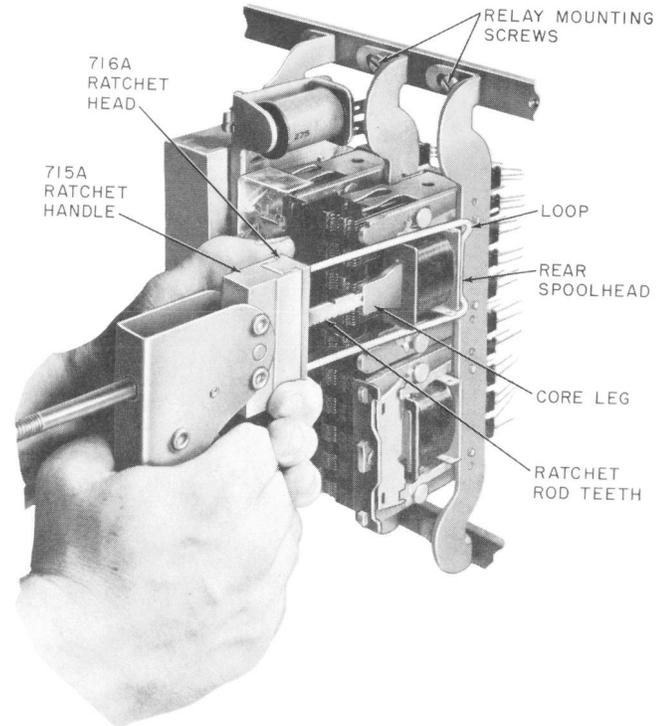

Fig. 16—Removing Coil With 716A Ratchet Head
- (3) Mount the 716A ratchet head on the 715A ratchet handle as covered in 3.34(1).
- (4) Position the rod of the 715A ratchet handle so its end is approximately 3 inches from the end of the loop and the rod teeth are facing the trigger as covered in 3.34(1).
- (5) Position the insulated loop of the 716A ratchet head behind the rear spoolhead of the coil with the end of the ratchet rod in line with and against the center leg of the core as shown in Fig. 16. Make sure the straight vertical portion of the loop engages the rear spoolhead of the coil. Hold the tool with the rod horizontal and advance the rod by pulling the trigger until the coil is off the core leg.
- (6) Remove the coil from the ratchet rod by rotating the rod 180 degrees and moving the rod back into the handle.
- (7) **Removing Coil With Broken Spoolhead:**